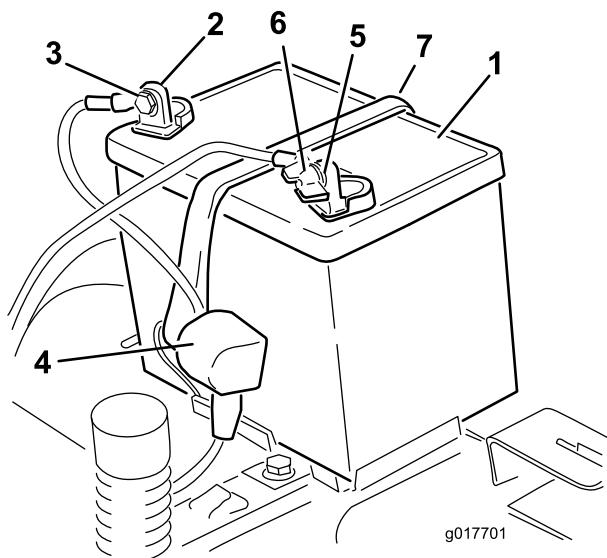

Figure 37
4. Disconnect the negative (black) ground cable from the battery post (Figure 37). Retain all fasteners.
- Slide the rubber cover up the positive (red) cable. Disconnect the positive (red) cable from the battery post (Figure 37). Retain all fasteners.
- Remove the battery hold-down (Figure 37) and lift the battery from the battery tray.
- Position the battery in the tray (Figure 37).
- Secure the battery with the hold-down (Figure 37).